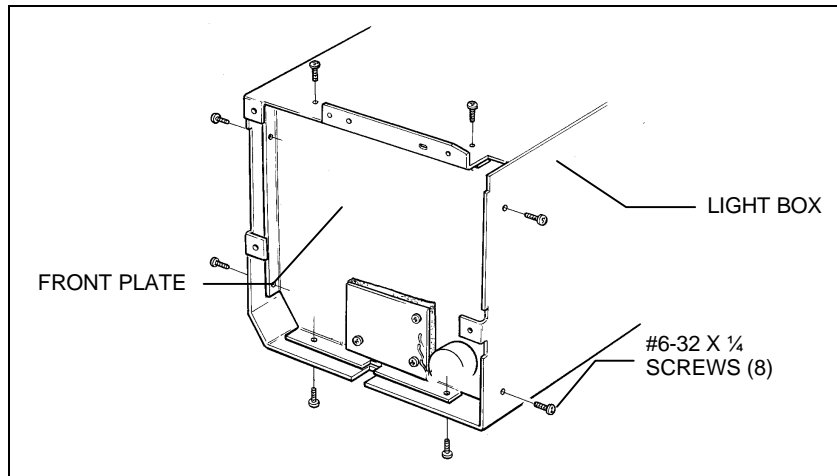

Figure 6- 27. Removing Front Plate from Light Box
7. Remove eight 6-32 x ¼ screws (two at the top, two at each side, two at the bottom) which secure the Front Panel Assembly to the light box (Figure 6- 27). Friction now holds the front panel in place.